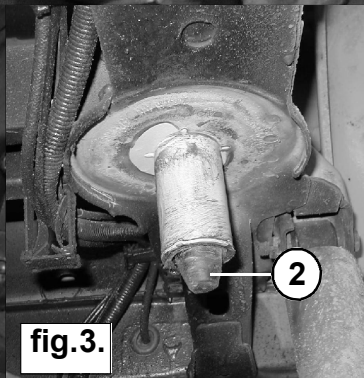

fig.3.
4. Demonteer de buffer 2. (Zie fig. 3.)